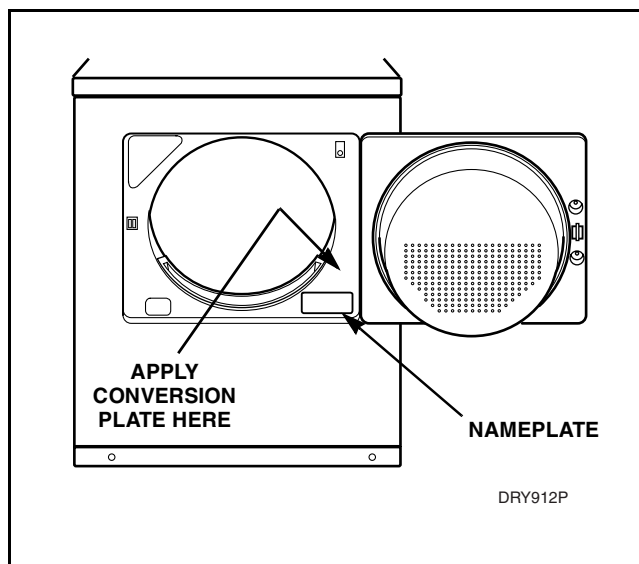

Figure 42
- j. Apply the No. 60513 Conversion Plate to the inside of the loading door opening above the nameplate. Refer to *Figure 42*.
- j. Apply the No. 60512 Conversion Plate to the inside of the loading door opening above the nameplate. Refer to *Figure 42*.